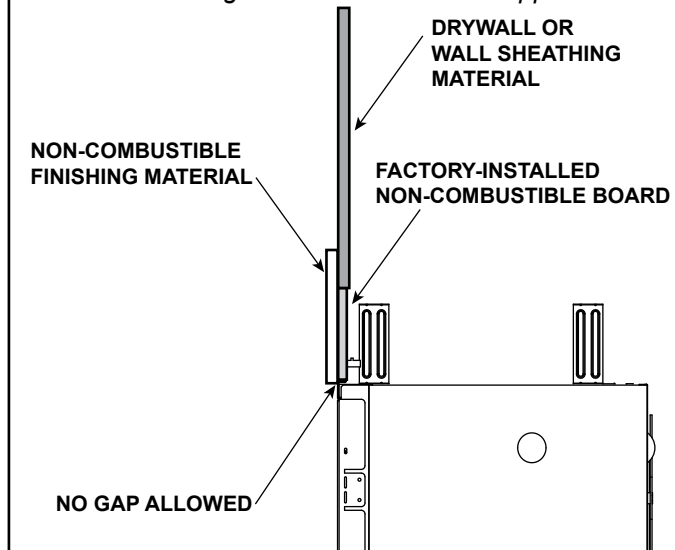
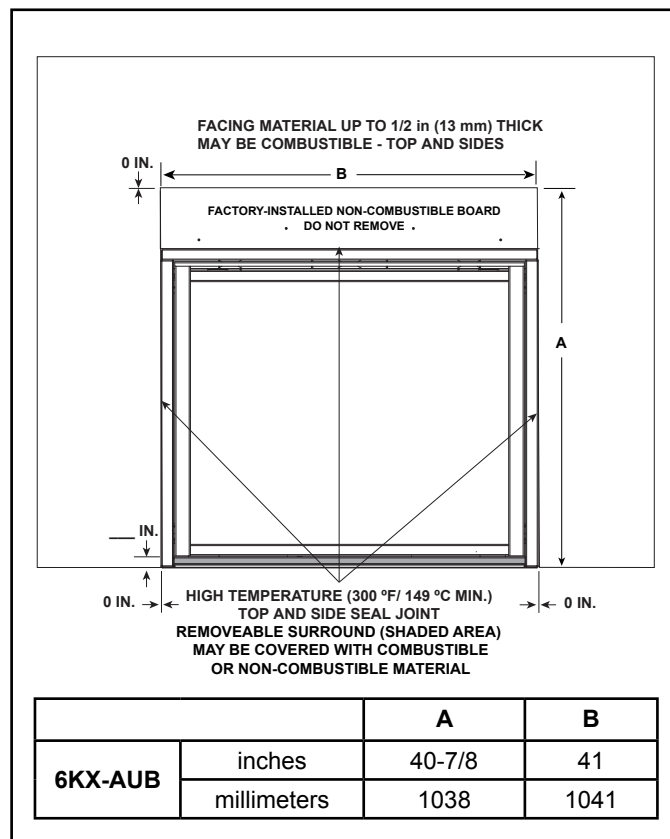

Figure 10.1 Finishing Material Installed
Figure 10.2 Non-combustible Facing Diagram
- Seal gaps between the finished wall and appliance top and sides using a 300 °F (149 °C) minimum sealant. Refer to Figure 10.1 and Figure 10.2.
- Finishing materials must be installed with no gaps in order to prevent the escape of heat between the finishing material and the wall. See Figure 10.2.